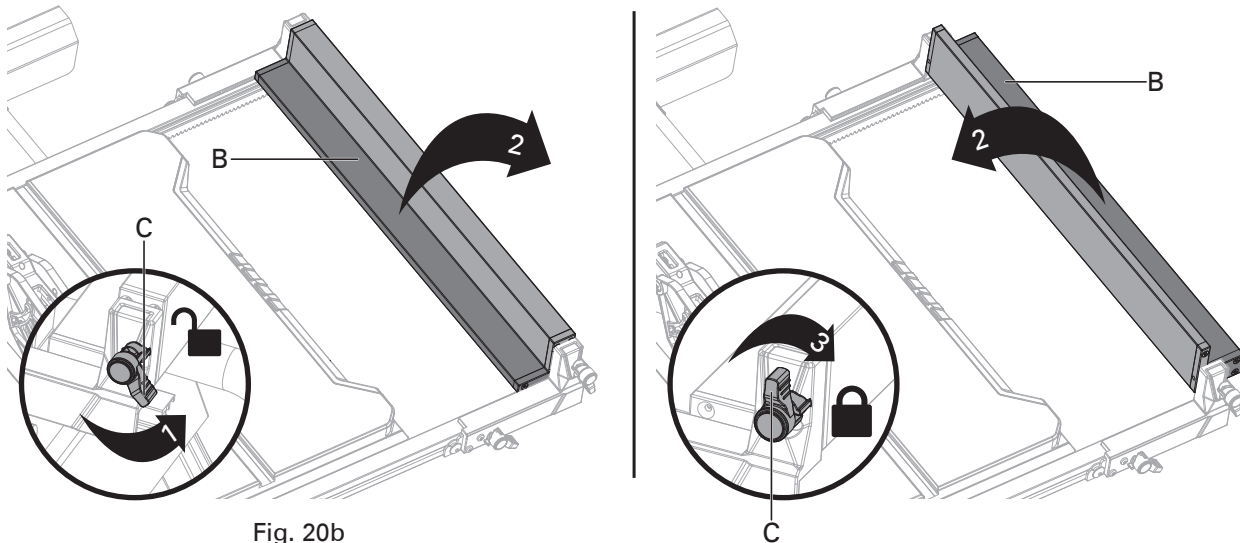

Fig. 20b
NARROW FENCE (Fig. 20b-20c)
- To use the narrow fence (B), turn the locking lever (C) counter-clockwise and rotate the narrow fence (B) as shown in Fig. 20b, then turn the locking lever (C) clockwise to lock.
- When not in use, turn the locking lever (C) clockwise and retracts the narrow fence (B) as shown in Fig. 20b.